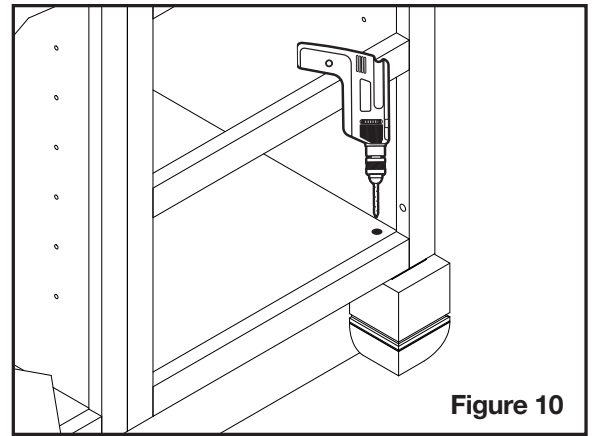

Figure 10
- Using #8 x 2 in. wood screw, secure the foot into place (Figure 10).